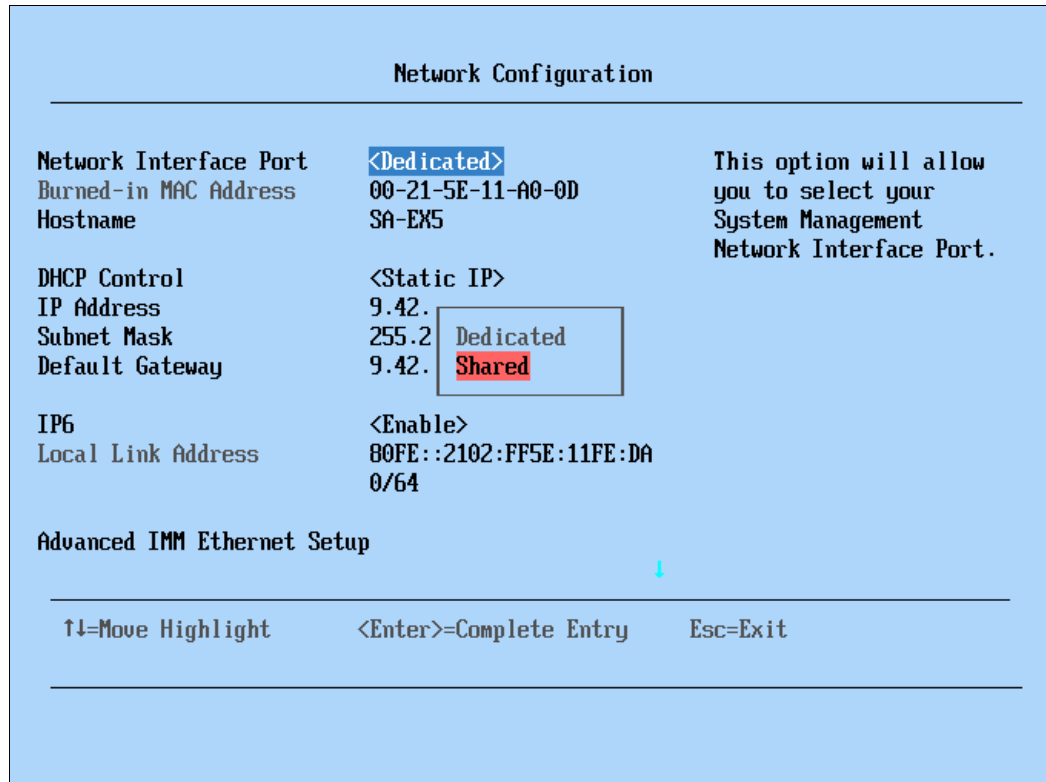

Figure 9-3 Network Configuration menu showing the Network Interface Port settings
4. Select **Network Configuration** from the Integrated Management Module. This menu allows you to configure the network settings for the IMM. Also, you can configure the IMM to share the use of Ethernet port 1 for out-of-band management from this menu, as shown in Figure 9-3 on page 451.